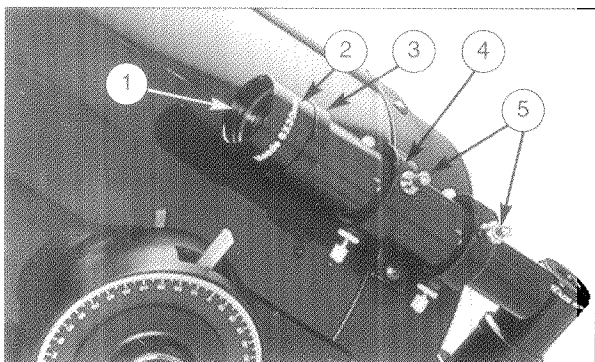

Fig. 7: The Viewfinder. (1) Objective lens; (2) Lens cell; (3) Focus locking ring; (4) Viewfinder mounting bracket; (5) Viewfinder collimation screws.
The LX10 viewfinder has been factory pre-focused to objects located at infinity. Individual eye variations, however, may require that the viewfinder be re-focused for your eye. Prior to installing the viewfinder in the viewfinder bracket (4, Fig. 7), check the focus by looking through the viewfinder. Point the viewfinder at a distant object; if the viewfinder image is not sufficiently in focus for your eye, it may be re-focused as follows:
- Loosen the knurled lock-ring (3, Fig. 7) located near the viewfinder's objective (front) lens (1, Fig. 7). Unthread this ring (*counterclockwise*, as seen from the eyepiece-end of the viewfinder) by several full turns.
- Focus the viewfinder by rotating the objective lens cell (1, Fig. 7) in one direction or the other, until distant objects observed through the viewfinder appear sharp. One or two rotations of the viewfinder lens have a significant effect on image focus.
- Place the viewfinder into the viewfinder bracket (4, Fig. 7) on the main telescope. Gently tighten the six alignment screws (5, Fig. 7), then proceed with alignment of the viewfinder.
- The viewfinder bracket (4, Fig. 7) includes six alignment screws (5, Fig. 7). Turn the 3 *rear-most* alignment screws so that the viewfinder tube is roughly centered within the viewfinder bracket, as viewed from the eyepiece-end of the telescope.